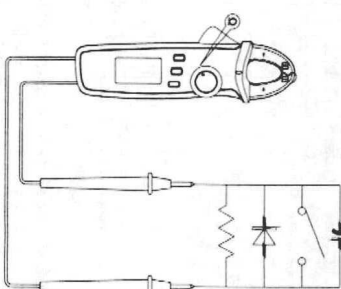

Figure 4
- Connect meter pen in parallel to test piece for measurement (Figure 4).